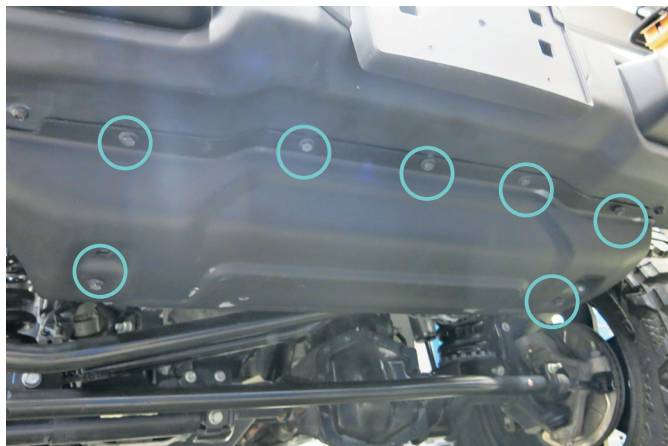

Fig. 1
1. Remove 7 bolts securing steering skid plate. Uninstall skid plate (Fig. 1).